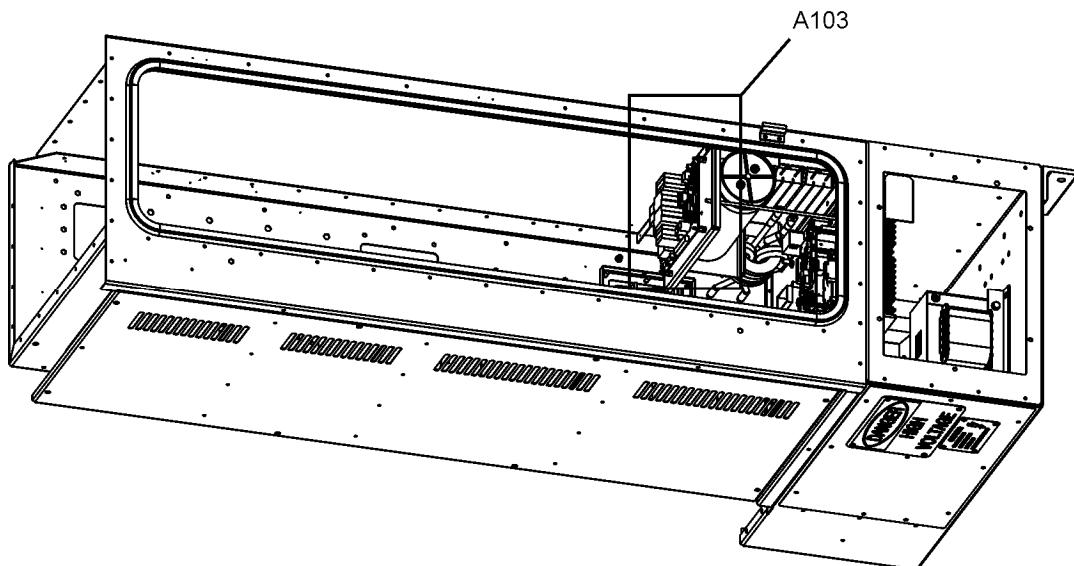

Figure 5-5: Location of A103
3. Locate A103. See Figure 5-5 for the location of the A103. A103 is mounted on a panel next to the C101 Capacitor which is near the roof of the structure in the dry area of the APS.